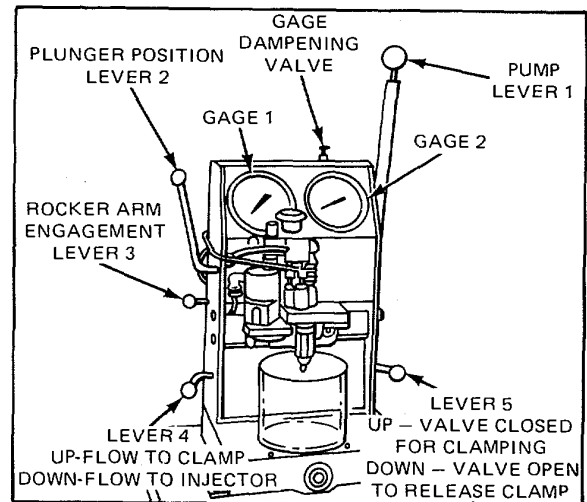

Figure 13. Injector in Position for Testing with Tester J 23010
1. Refer to Fig. 13 and position the injector tester levers as follows:
1. Move lever 4 down and operate pump lever 1 rapidly with smooth, even strokes (40 strokes per minute), simulating the action of the tip functioning in the engine (Fig. 13).